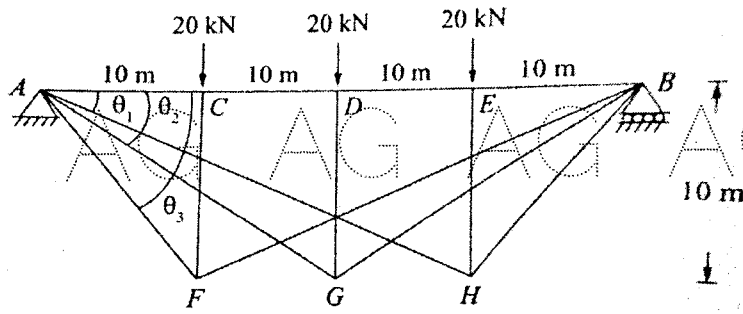

Figure: 2
4. Determine the forces in all members of truss shown in Figure 2 by method of joints. [10]